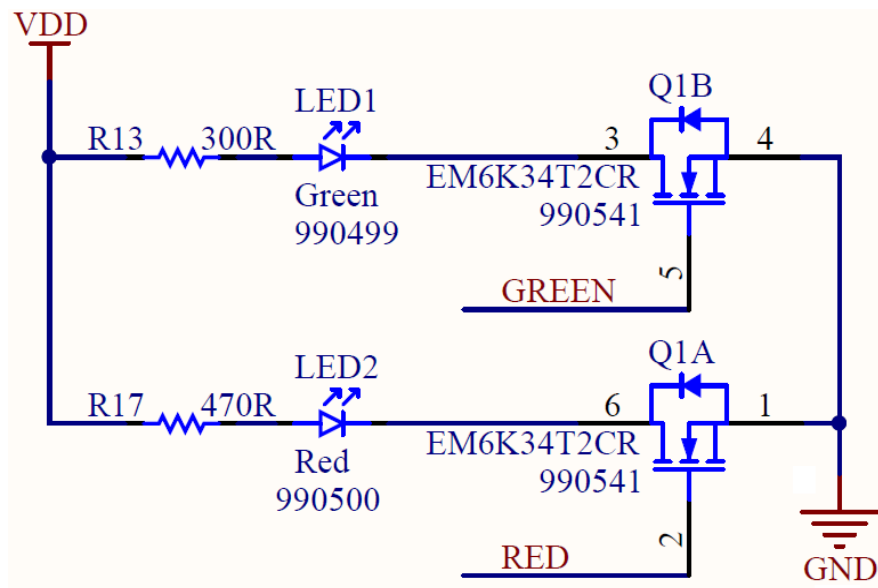

Figure 3-8: LEDs Schematic
There are two (2) active high LEDs available for visual indication, a green LED and red LED as shown in Figure 3-8.